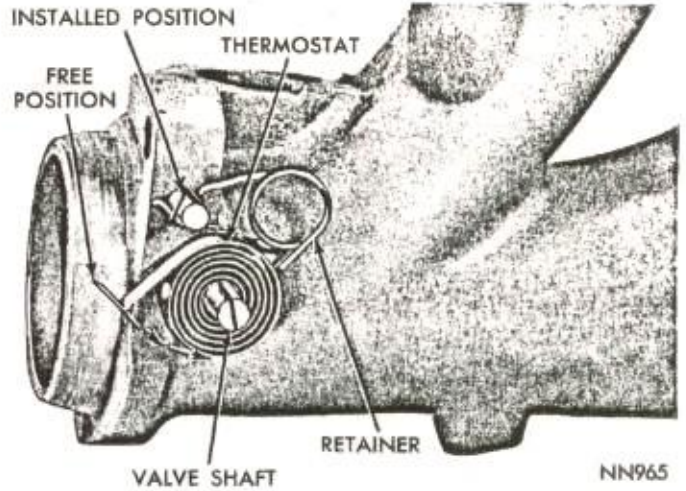

Fig. 5—Installing Thermostat
(2) Install a new thermostat in slot in shaft (Fig. 5) with outer end of thermostat in lower left hand posi-